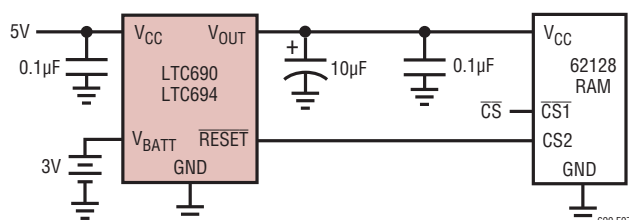

**Figure 5. Timing Diagram for  $\overline{\text{CE}}$  IN and  $\overline{\text{CE}}$  OUT**
**CE IN:** Logic input to the Chip Enable gating circuit.  $\overline{\text{CE IN}}$  can be derived from microprocessor's address line and/or decoder output. See Applications Information section and Figure 5 for additional information.
**CE OUT:** Logic Output on the Chip Enable Gating Circuit. When  $V_{\text{CC}}$  is above the reset voltage threshold,  $\overline{\text{CE OUT}}$  is a buffered replica of  $\overline{\text{CE IN}}$ . When  $V_{\text{CC}}$  is below the reset voltage threshold  $\overline{\text{CE OUT}}$  is forced high (see Figure 5).
input of battery-backed up CMOS RAM.  $\overline{\text{CE}}$  OUT can also be used to drive the Store or Write input of an EEPROM, EAPROM or NOVRAM to achieve similar protection. Figure 5 shows the timing diagram of  $\overline{\text{CE}}$  IN and  $\overline{\text{CE}}$  OUT.